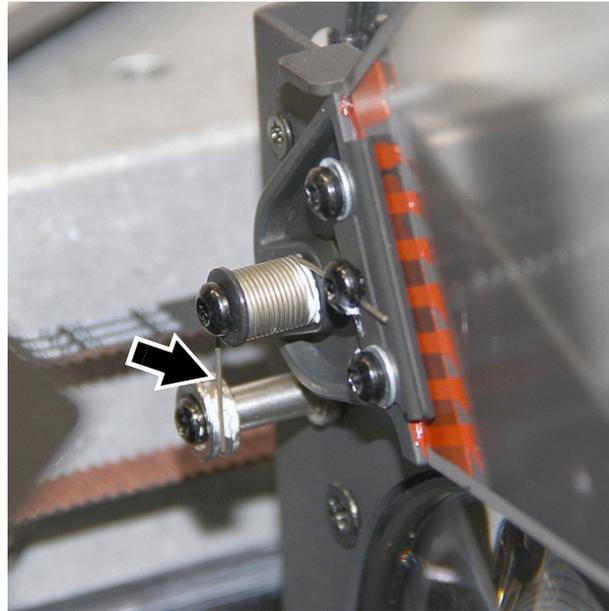

Figure 28: Frost filter spring
5. See Figure 28. Lift the end of the frost filter spring (arrowed) out of its groove in the spring anchor post. Do not remove the high-temperature lubricant from the anchor post.
8. See Figure 28. If necessary, spread the high-temperature lubricant on the spring anchor post around a little so that it will lubricate the new frost filter spring. Then engage the end of the spring (arrowed) in the groove in the spring anchor post as shown.